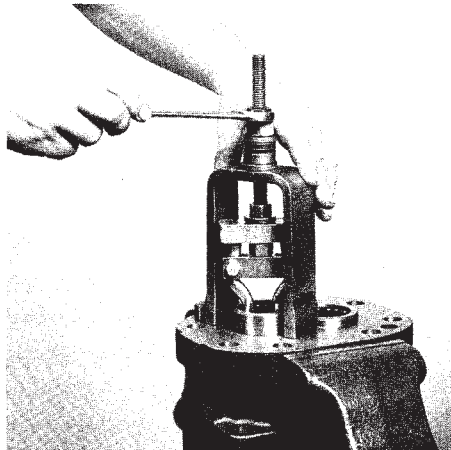

FIGURE 4
7. Inspect bearings, and if necessary, remove with a bearing puller. (Figure 4)